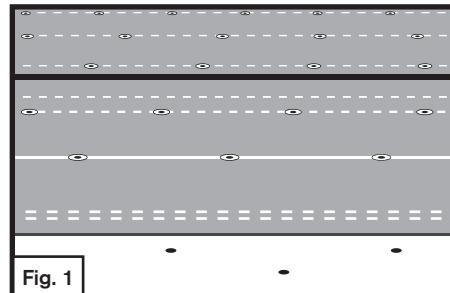

Fig. 1
**Step 5.** Nail the starter course at 6 inches on center across the center of the sheet using 1 inch diameter metal cap nails. See Fig. 1